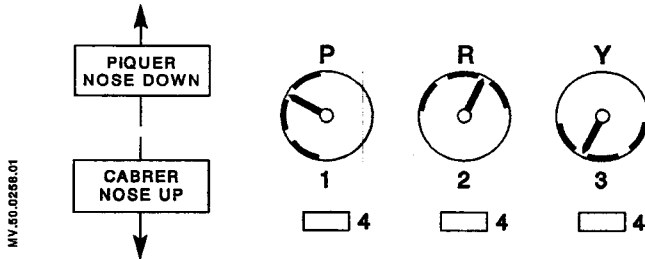

Figure 2
1.2 Instrument Panel Galvanometers (Figure 2)